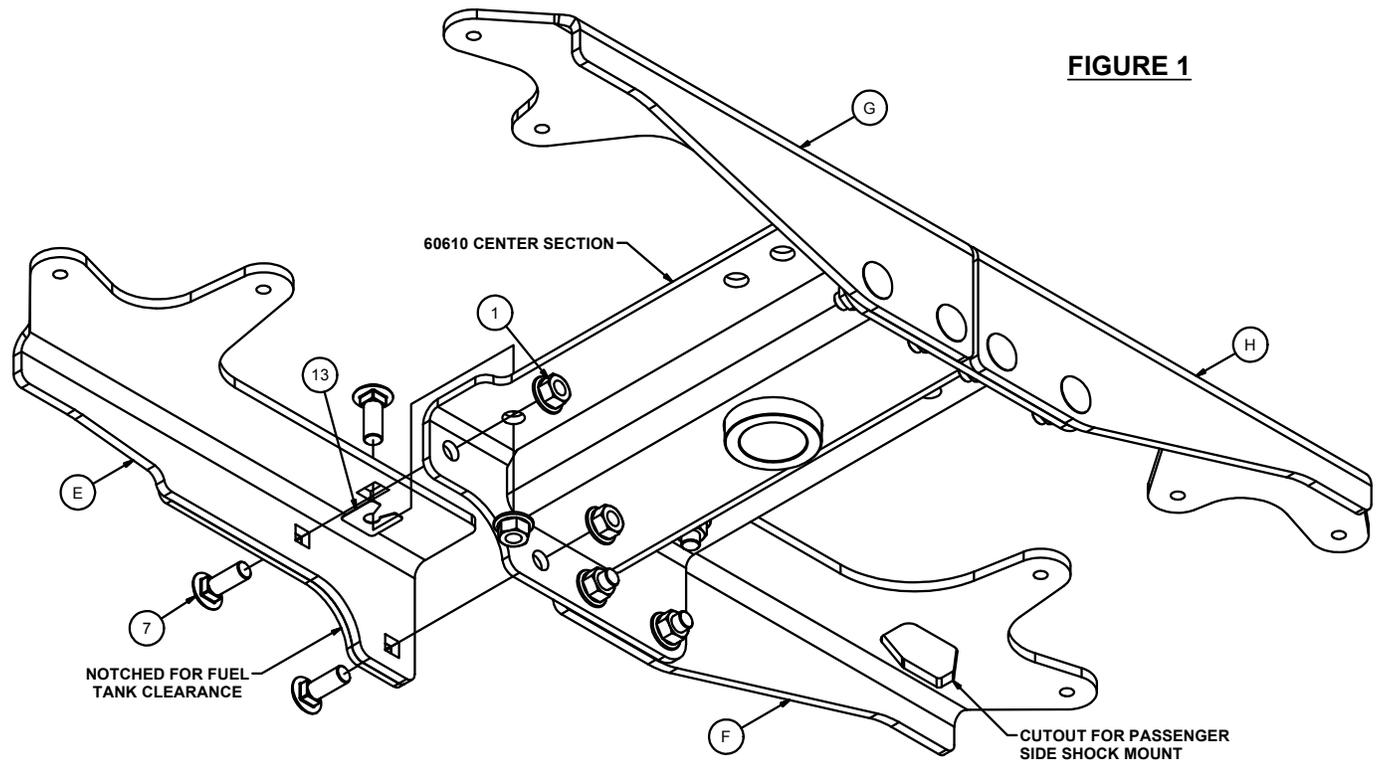

FIGURE 1
4. Place (1) 5/8" carriage bolt into the top mounting hole of each center attachment plate (items E, F, G, and H in the parts list) and secure with (4) 60651-BRC (item 13). Referring to **FIGURE 1**, place the center attachment plates into position. Loosely install the 9/16" hex bolts, conical lock washers and spacers as shown in **FIGURE 2** except for item E, the driver side front center attachment plate. Leave Item E loose so it can be aligned with the center section in step 5.
7. Align the gooseneck ball cylinder with the hole drilled in the bed in step 2. Push the center section up to the bottom of the truck bed and insert the remaining 5/8" carriage bolts as shown in **FIGURE 1**. Install remaining 5/8" hex flange nuts.